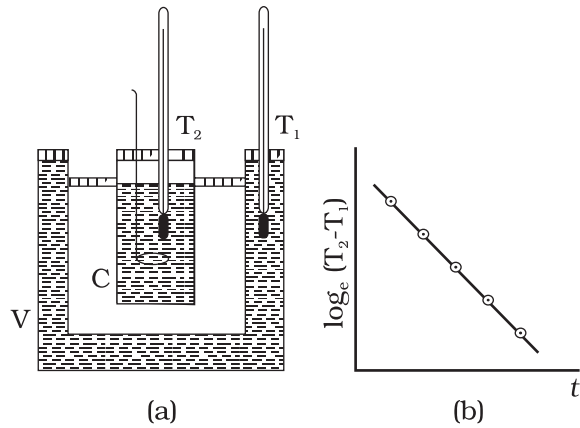

Fig. 11.19 Verification of Newton’s Law of cooling.
Newton’s law of cooling can be verified with the help of the experimental set-up shown in Fig. 11.19(a). The set-up consists of a double walled vessel (V) containing water in between the two walls. A copper calorimeter (C) containing hot water is placed inside the double walled vessel. Two thermometers through the corks are used to note the temperatures T_2 of water in calorimeter and T_1 of hot water in between the double walls respectively. Temperature of hot water in the calorimeter is noted after equal intervals of time. A graph is plotted between $\log_e (T_2 - T_1)$ and time (t). The nature of the graph is observed to be a straight line having a negative slope as shown in Fig. 11.19(b). This is in support of Eq. (11.18).